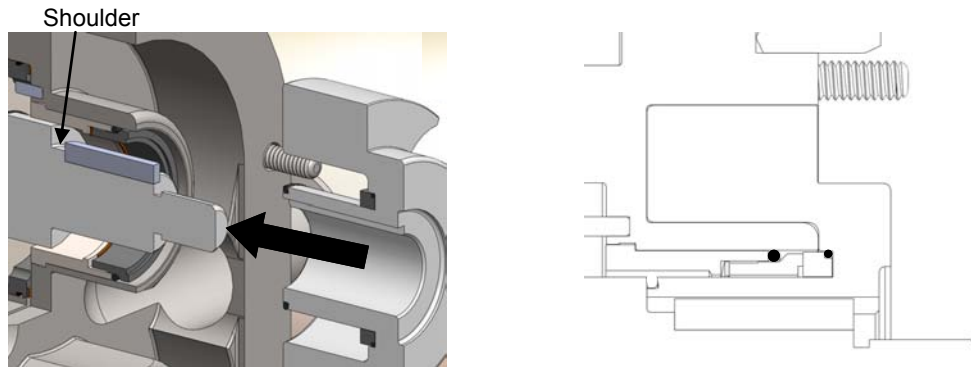

Figure 8: Rotor Assembly
5) Slide the rotors on to the shafts until they seat against the shaft shoulder (Figure 8).